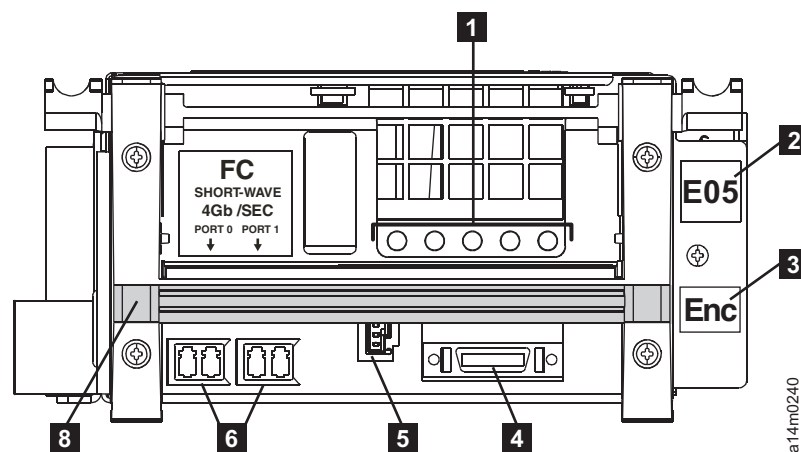
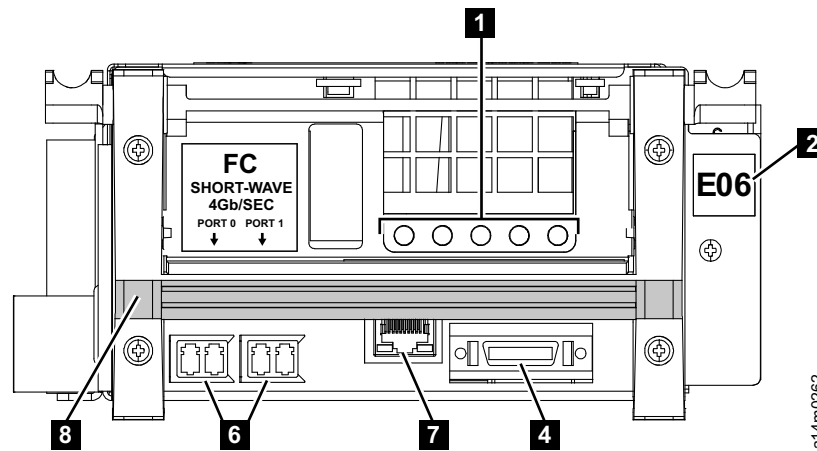
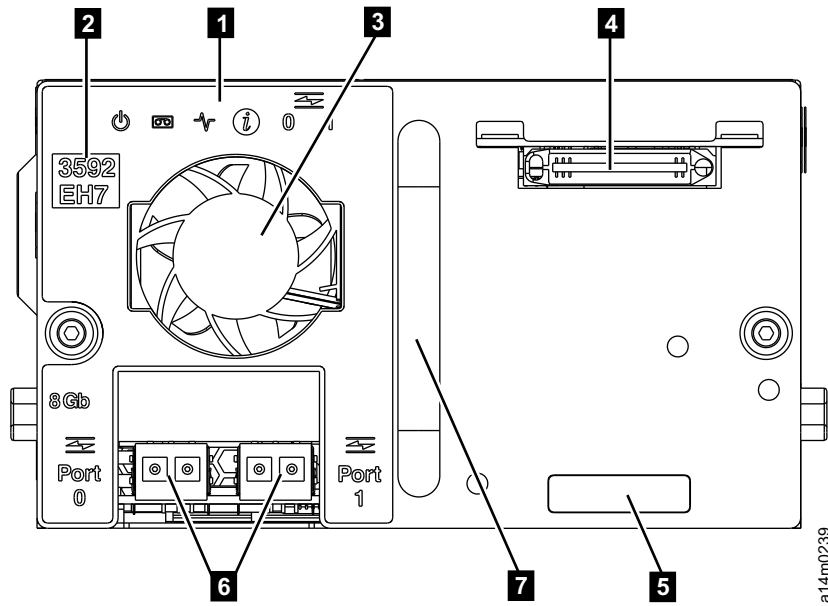
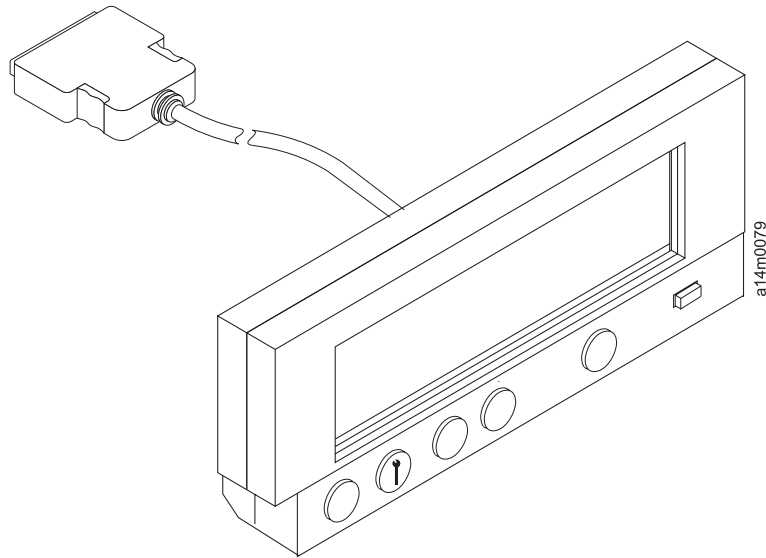

Figure 22: E05, EU6, and J1A tape drive rear panel components
Figure 23: E08, E07, and E06 tape drive rear panel components
Figure 24: EH7/EH8/55F/60F tape drive rear panel components
Figure 26: Service panel (To be used by qualified IBM service personnel only)
2. Check the Fibre Channel connections. Verify that the fibre cables are properly connected to the two pairs of ports at the rear of the drive canister (see 6 in Figure 22 on page 55, Figure 23 on page 56, and Figure 24 on page 57).
The rear panel of the 3592 tape drive is the same on the E08, E07, E06, EU6, E05, and J1A tape drives except for the model marking **2** on the right, the RS-232 serial port **5** on the E05, EU6, and J1A (see Figure 22 on page 55) tape drives, and the ethernet port **7** on the E06, E07, and E08 tape drives (Figure 23 on page 56). An Encryption Capable label **3** appears on some E05 tape drives.
The rear panel on all models has five LEDs **1** to display different statuses. The first two LEDs on the left, labeled **Port 0** and **Port 1**, indicate Fibre Channel activity. The middle (third from the left) LED, labeled **Library**, indicates communications from the library. The fourth LED from the left, labeled **Status** (except on the E07 and E08 tape drives), displays drive status. On the E07 and E08 tape drives, the fourth LED is labeled **Cartridge Present**, and indicates cartridge present and drive status. The LED on the far right, labeled **Power**, indicates the status of power to the drive. If the drive status LED (fourth from the left) is flashing, a status message can be viewed on the 8-character front panel message display. An IBM Service Support Representative can also plug the service panel (see Figure 26 on page 60) into the connector **4** to view the message. The dual port Fibre Channel connectors **6** are also on the rear of the drive canister. The shaded area that is labeled **8** is a handle for use when cables are installed.
For all drive models except EH7, EH8, 55F, and 60F, qualified IBM service representatives can attach the cable of a service panel (see Figure 26 on page 60) to a connector on the rear of the drive. See 2 in Figure 22 on page 55, , and Figure 23 on page 56 to complete extra functions.